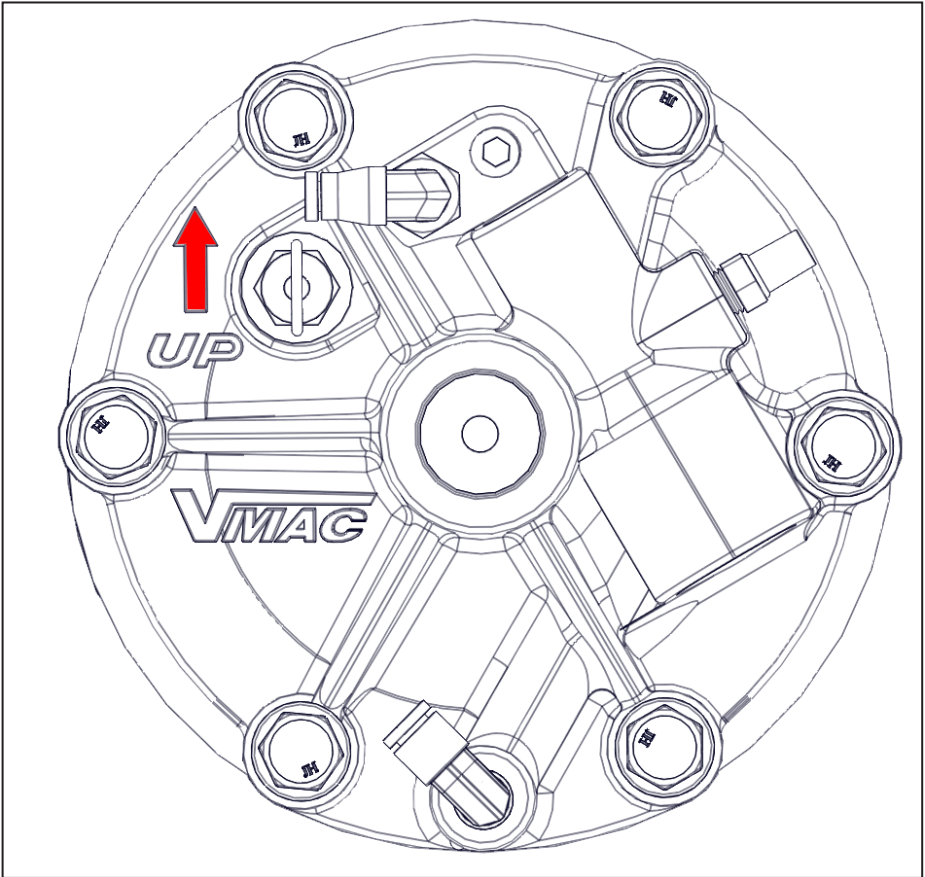

Figure 59 — Securing the AOST (Rear view)
- ☐ Rotate the tank so that the directional arrow on the rear of the tank is pointing upwards (Figure 59).